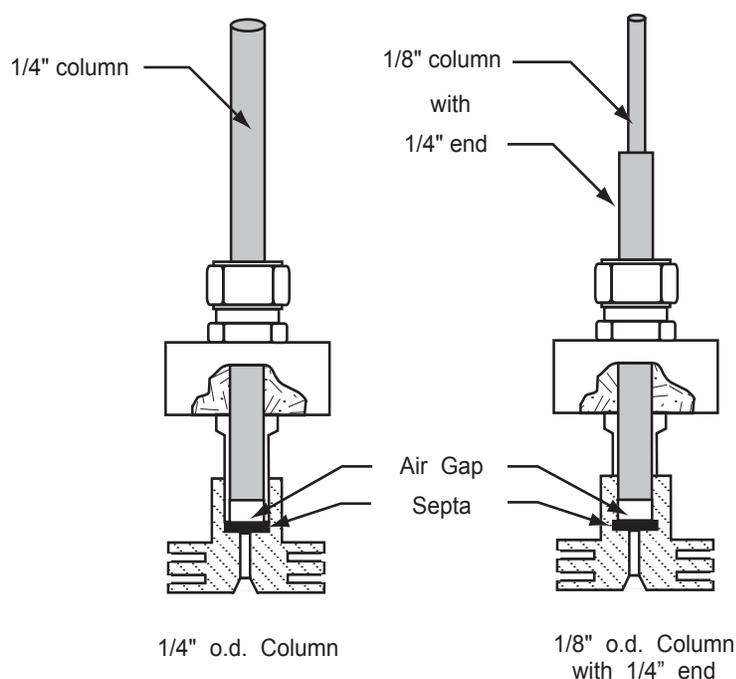

Figure 9-2
- B. Figure 9-2 shows the injection port for low dead volume utilizing on-column injection.